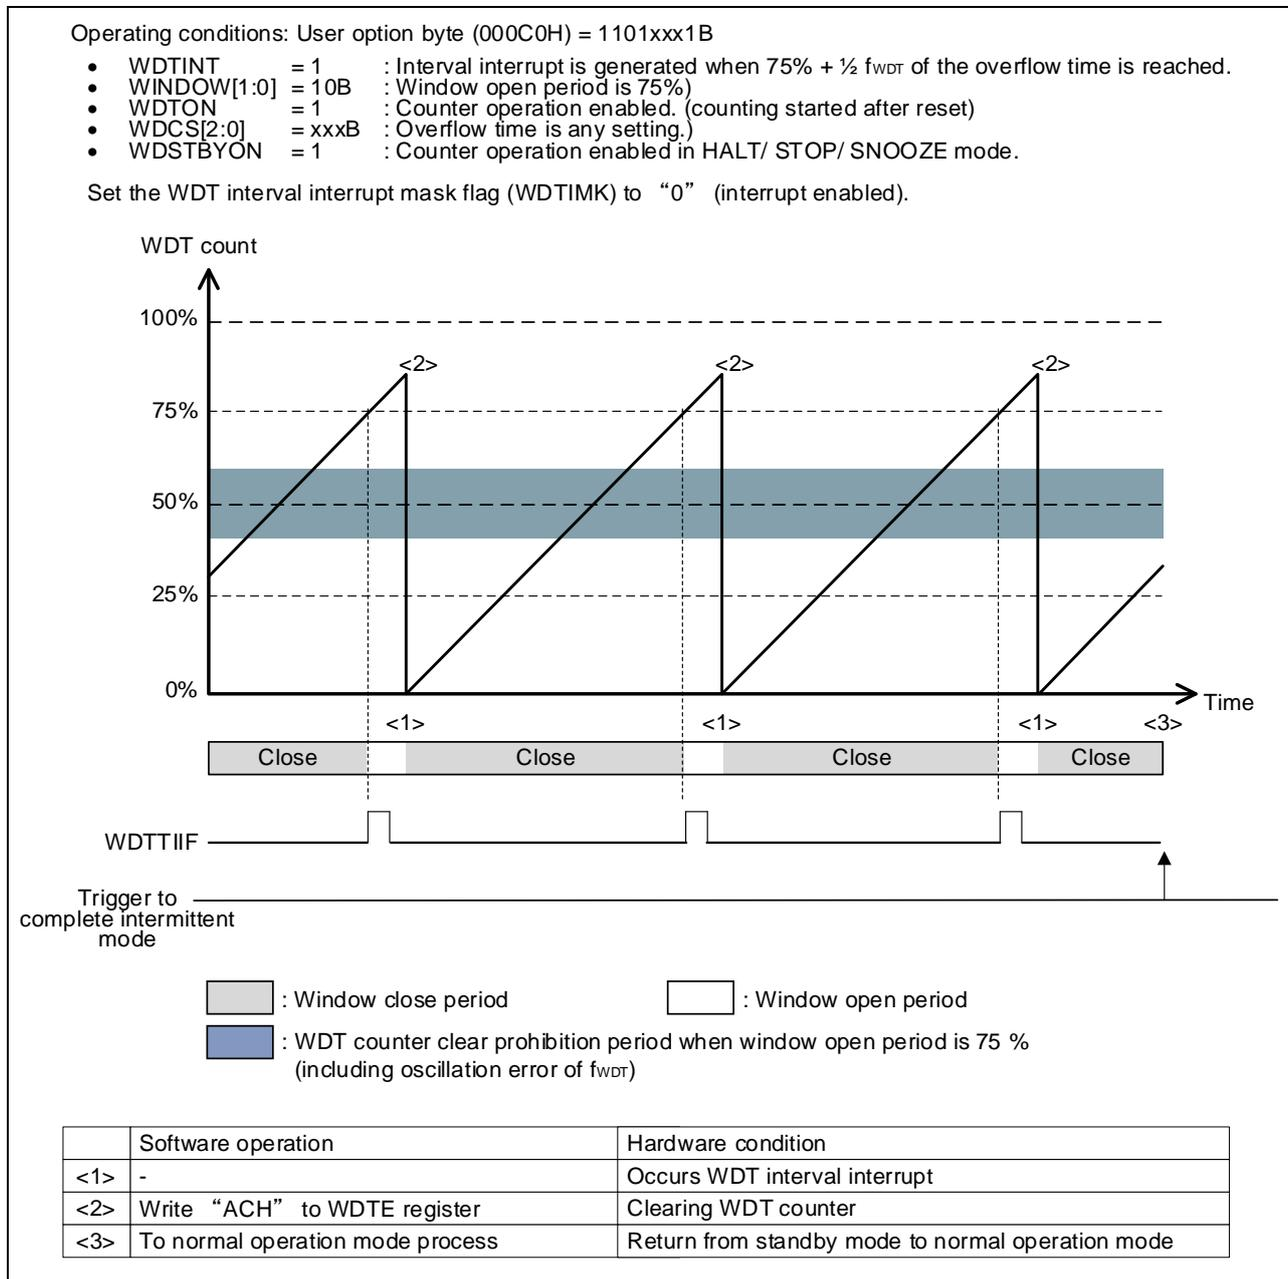

Figure 15-2 Processing Example When Using the WDT Function
- (1) When the window open period of watchdog timer is set to 75%, the processing to avoid the window close period and clear the counter. Table 15-1 shows the watchdog timer counter clear prohibition period when the window open period is set to 75%, and Figure 15-2 shows a processing example that the processing to avoid the window close and clear the counter in standby mode (intermittent operation).
Figure 15-2 shows a processing example that returning from standby mode to normal mode by the WDT interval interrupt and clear the WDT counter (write "ACH" to the WDTE register).
P.62	Corrected "Figure 15-2 Processing Example When Using the WDT Function".